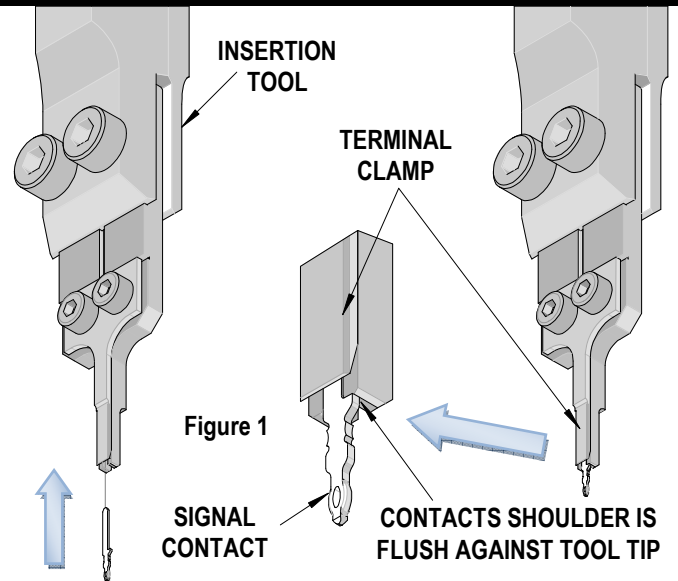

Figure 1
3. The signal contact is completely seated in the insertion tool when the contacts shoulder is resting against the insertion tool tip and can no longer be moved up. See Figure 1.